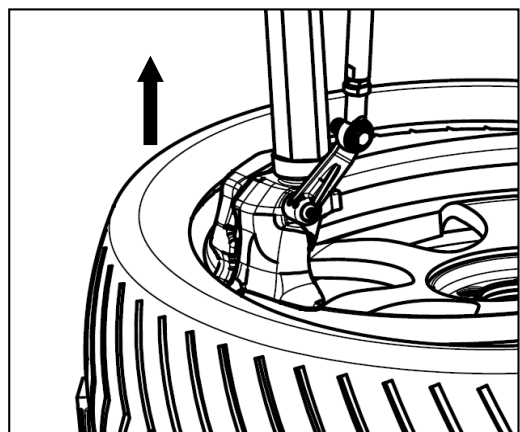

FIG15
- After the demounting head into the tire lip, pull upward the control valve to lift the tire lip onto the circular convex part of demounting head like FIG15. Currently, step the rotation pedal to observe the tire lip and demounting hook, if there's no abnormality, step down the rotation pedal to rotate the turntable clockwise to take out the upper side of tire lip.